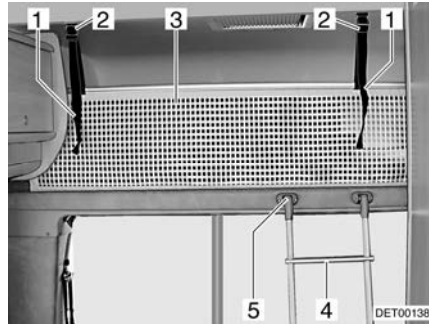

Fig. 96 Overcab bed
Always use the access ladder (Fig. 96,4) provided as standard to access the overcab bed.
- Attach the ladder with the rails to the holder (Fig. 96,5) on the alcove panel.
The safety net (Fig. 96,3) is stored as standard between the mattress and slatted frame. Only use the safety net if persons are already in the alcove.
- Let the retaining straps (Fig. 96,1) snap into the holders (Fig. 96,2) on the ceiling.